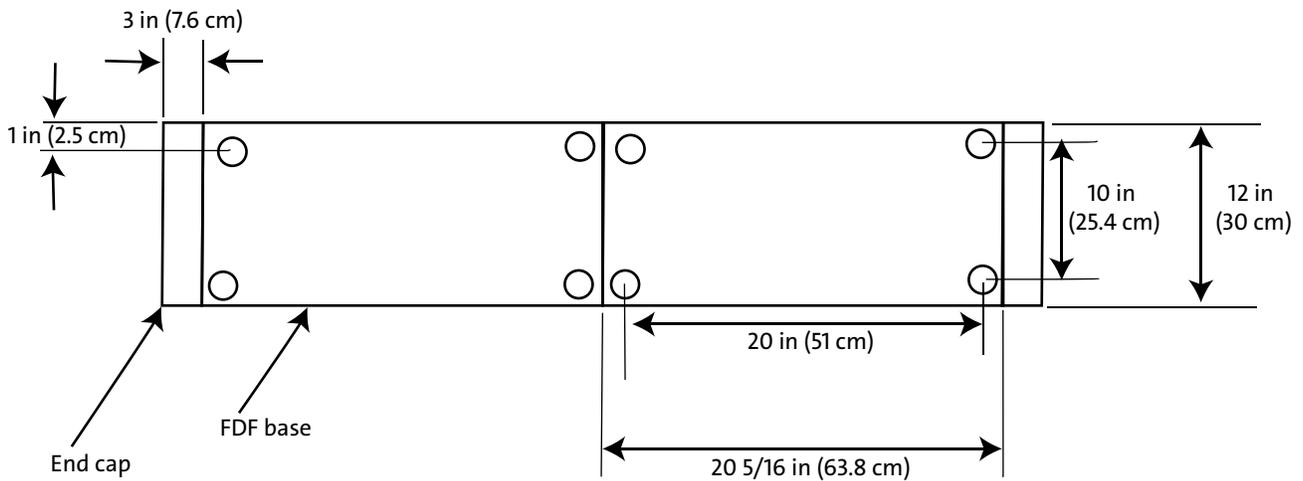

Figure 6
IMPORTANT: Make sure that enough space is allocated for the installation. The FDF footprint is shown in Figure 6.
Step 1: Attach the utility frame to the floor according to local practices using anchors and hardware specific to the type of floor. See Figure 6 for hole locations.
NOTE: When the FDF will be secured to an overhead support structure (Figure 6), use a 1/2 -in diameter J-bolt or threaded rod (purchased separately).